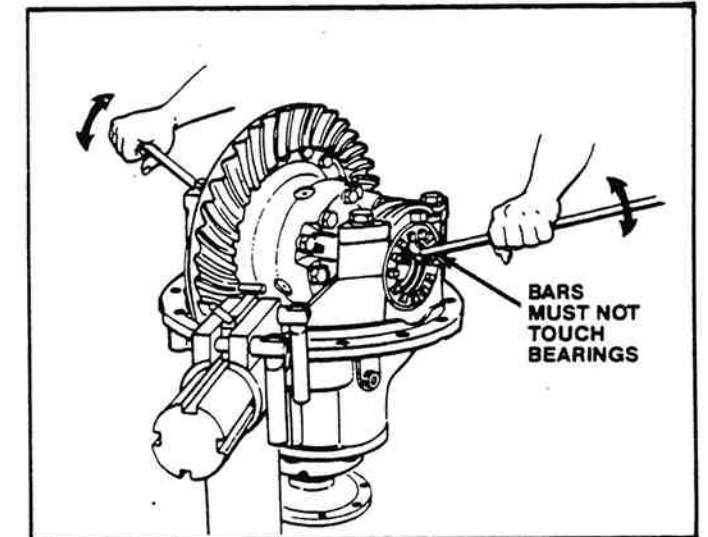

Figure 2-79. Placing Pry Bars At Bearing Adjusting Rings.
a. Use two pry bars that fit between the bearing adjusting rings and ends of the differential case. The pry bars **must not** touch the differential bearings (Figure 2-79).